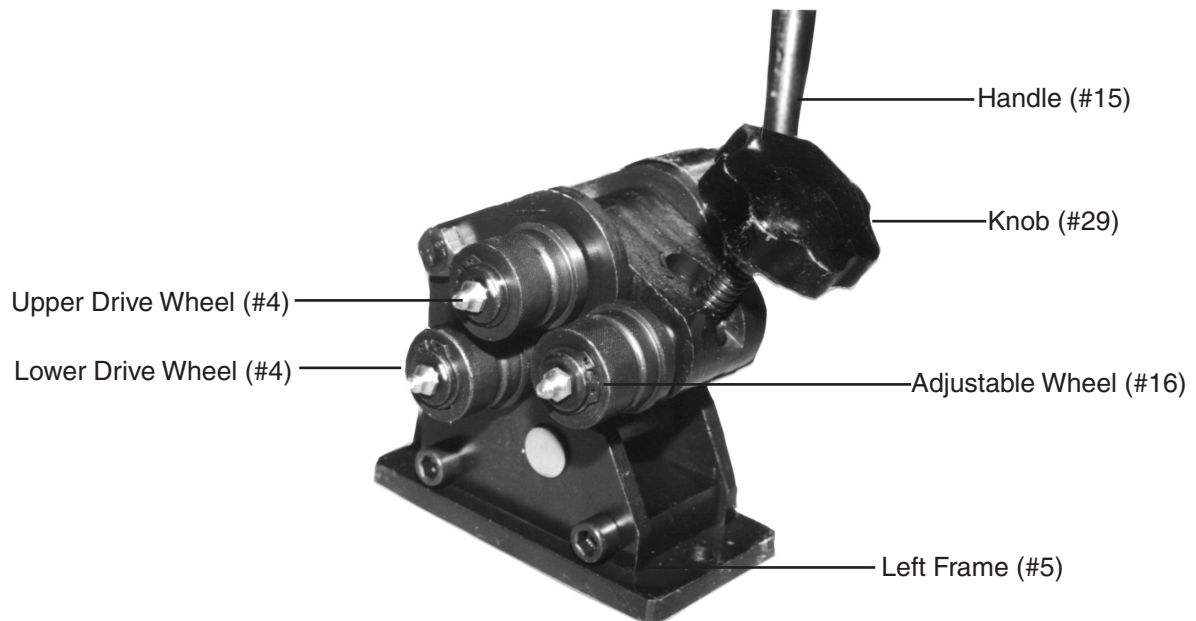

Figure 2
Step 2) Move the Adjustable Wheel (#16) up or down (as desired) by turning the Knob (#29) - see Figure 2.
Step 6) Insert the stock between the Upper Drive Wheel (#4) and between both the Adjustable Wheel (#16) and lower Drive Wheel (#4) - see Figure 2.